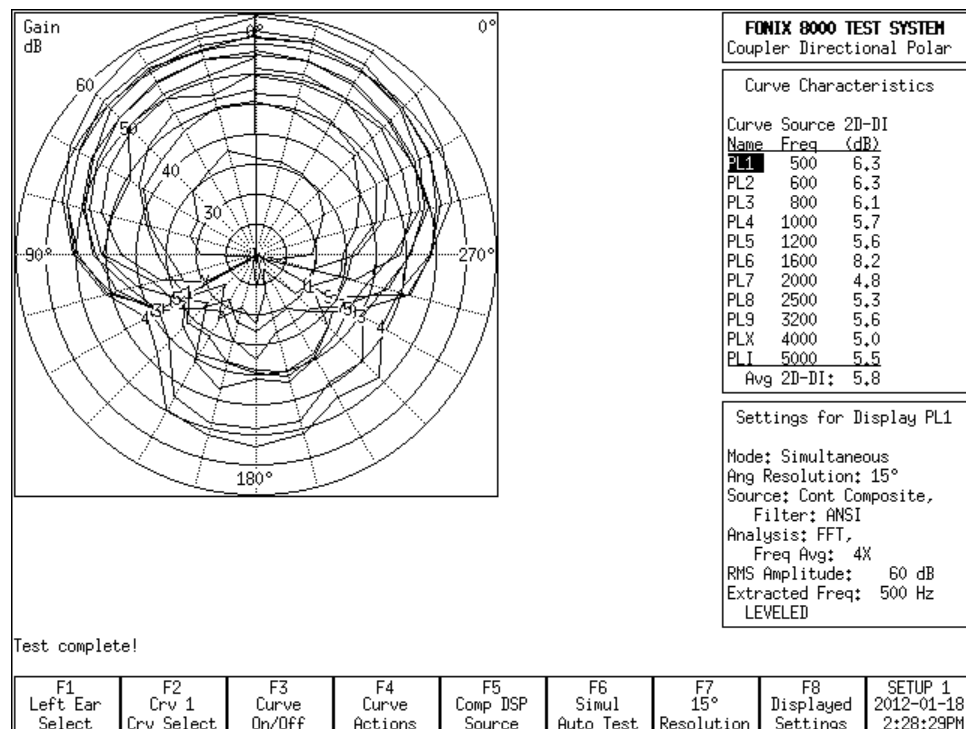

Figure 6.4.2.1
5. Press [START]. The test will run and the results will be displayed in Polar Plot graph. See Figure 6.4.2.1.